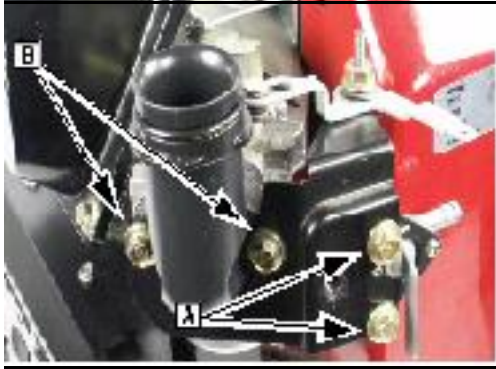

Fig. 15
- Remove bolts ([A] Fig. 15) that secure shut-off valve.
- Remove bolts ([B] Fig. 15) that hold the choke bracket, air intake duct and carburetor.